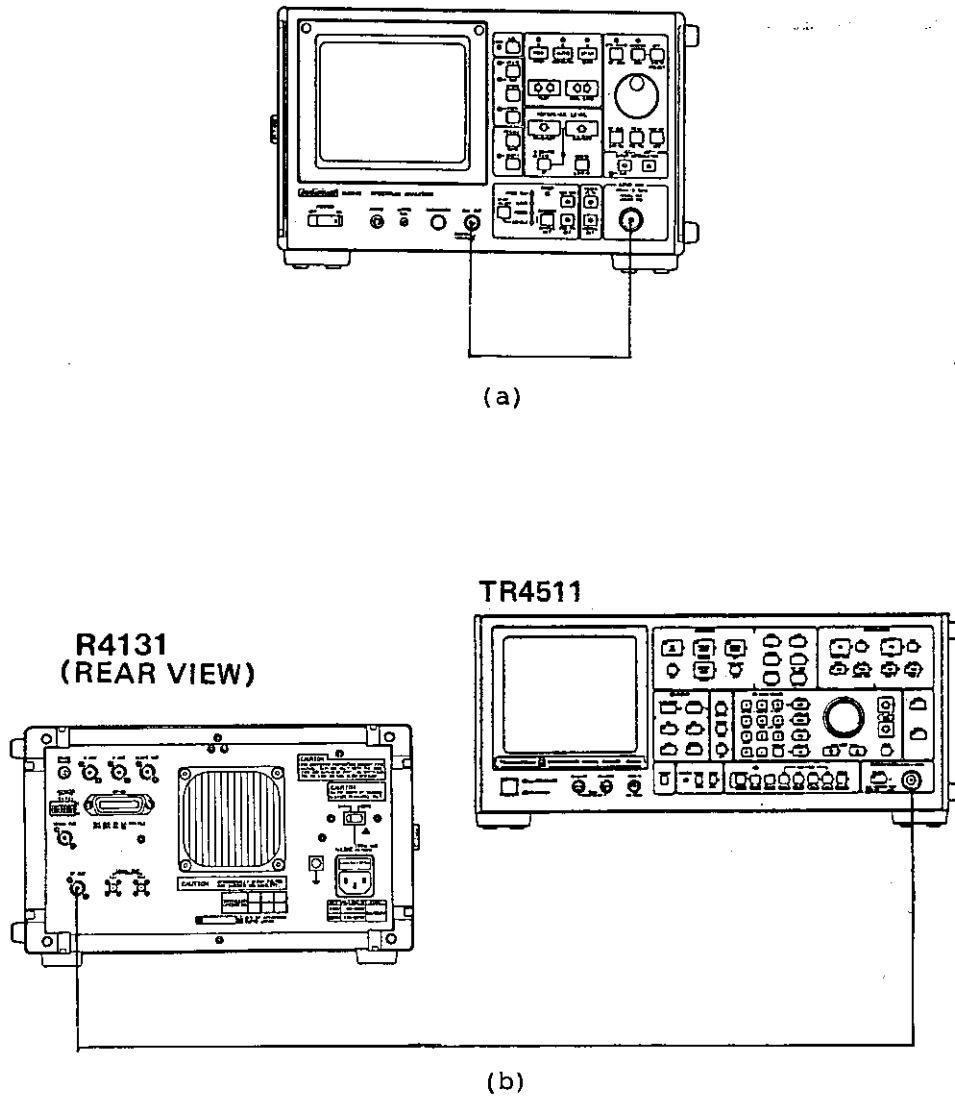

Figure 11-12 Resolution Bandwidth Accuracy Test Setup
(2) Procedure
- ① Connect the calibration signal of the spectrum analyzer to the INPUT connector as shown in Figure 11-12 (a).
- ⑧ In testing resolution bandwidths 3 kHz to 1 kHz, remove the top cover of the spectrum analyzer and apply 3.58 MHz, -20 dBm signals to the IF FILTER IN connector from the synthesized signal source. (See Figure 11-12 (b).)
- ⑨ Set the spectrum analyzer resolution bandwidth to 3 kHz and adjust the output frequency of the synthesized signal source for the maximum waveform peak by varying the output frequency at the 10 Hz place.
- ⑩ Adjust the output level of the synthesized signal synthesized source to bring the spectrum analyzer display level to 1.5 divisions above the horizontal axis in the center of the display screen.
- ⑪ Reduce the output frequency of the synthesized signal source until the waveform peak displayed on the display screen coincides with the horizontal axis in the center of the display screen. Record this output frequency as f1.
- ⑫ Next, increase the output frequency of the synthesized signal source until the waveform peak rises once above the horizontal axis in the center of the display screen, and then correspondingly falls. Record this output frequency as f2.
- ⑬ Determine the 3 dB bandwidth by calculating f2 minus f1. Check that this value falls between 2.4 and 3.6 kHz ( $3 \pm 0.6$  kHz or less).
- ⑭ Test resolution bandwidths 1 kHz according to Table 11-5. Keep records of the resultant 3 dB resolution bandwidth values for use in the resolution bandwidth selectivity test described in Section 11.8.
- ④ Turn the AMPTD CAL control to bring the signal peak to the top graticule on the display screen.
- ⑤ Turn the TUNING dial to position the 60 dB point for the best reading.
- ⑥ Measure and record the 60 dB bandwidth. Check that the ratio of the 60 dB bandwidth to the 3 dB bandwidth measured in Section 11.7 is 15 or less.
- ⑦ Repeat steps ③ to ⑥ for resolution bandwidths of 300 kHz to 10 kHz as well.
- ⑧ Connect the output of the synthesized signal source to the spectrum analyzer IF FILTER IN connector as shown in Figure 11-12 (b).
- ⑨ Set the output frequency of the synthesized signal source to 3.58 MHz (CW), -20 dBm.
- ⑩ Adjust the output frequency of the synthesized signal source for a maximum reading on the R4131 display screen, and set the signal to be on the reference graticule.
- ⑪ Increase the output frequency of the synthesized signal source until the signal level is reduced 60 dB (6 graticules).